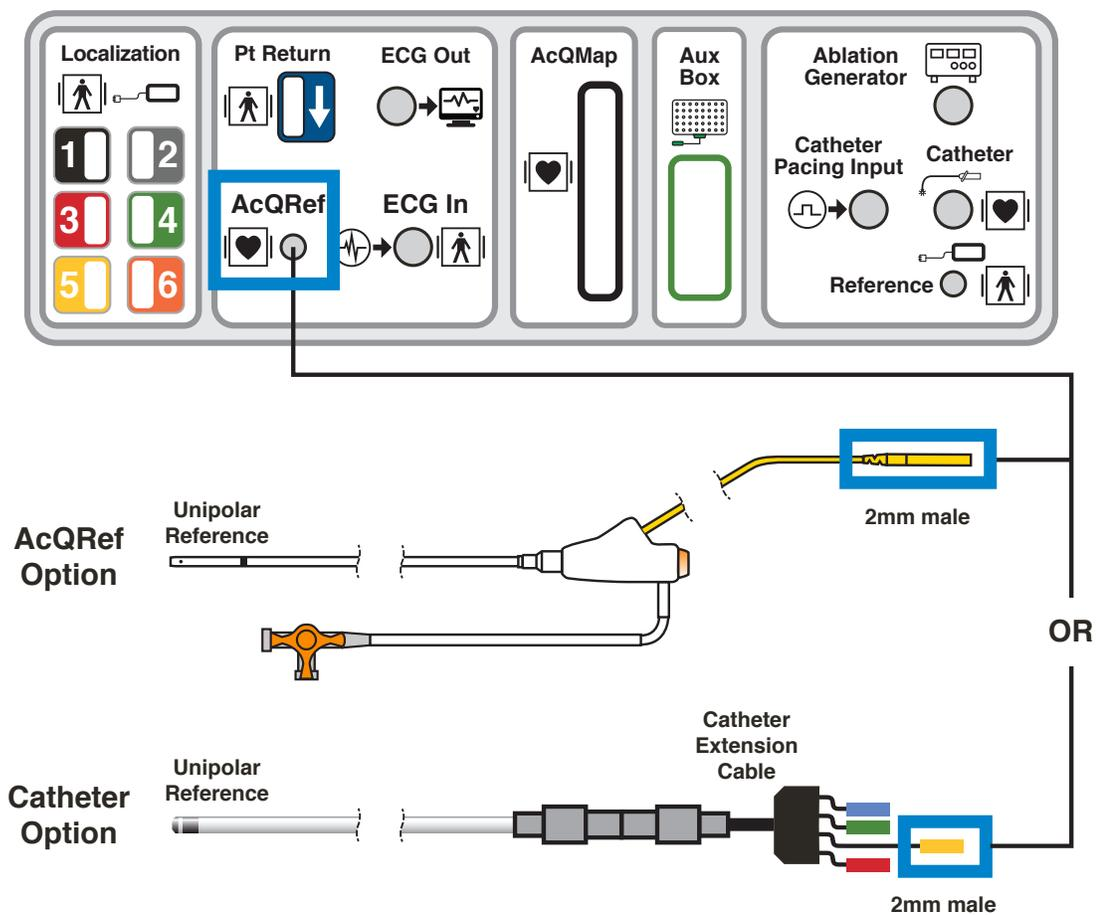

Figure 5-2. Electrical Reference Catheter specifications and connections.
1. Insert an Electrical Reference Sheath (AcQRef Introducer Sheath) or Catheter into the right or left femoral vein per standard laboratory procedure. Refer to Chapter 5, *Figure 5-2* for recommended sheath/catheter/electrode requirements.